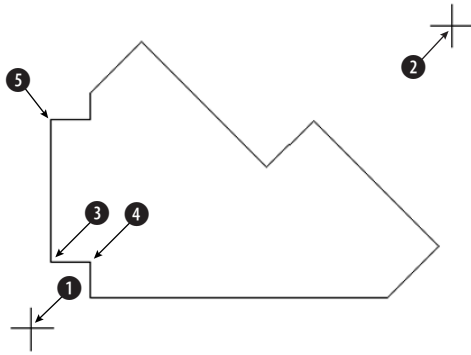

Figure 16-50: An unfolded sheet metal template
2. Save the file as `ab16-11.dwg` in your AutoCAD Bible folder. This is a sheet metal template as shown in Figure 16-50.
3. Make a photocopy of Figure 16-50 and tape it to the active area of your digitizer.
Digitize point #1: Pick ❶ in Figure 16-50.
Digitize point #2: Pick ❷ in Figure 16-50.
7. In Figure 16-50, pick ❸ with the digitizer, then ❹, and then each line endpoint in turn counterclockwise around the figure.
8. After you reach ❺, do not digitize point ❶ again. Instead, type **c** ↵ to close the figure exactly.